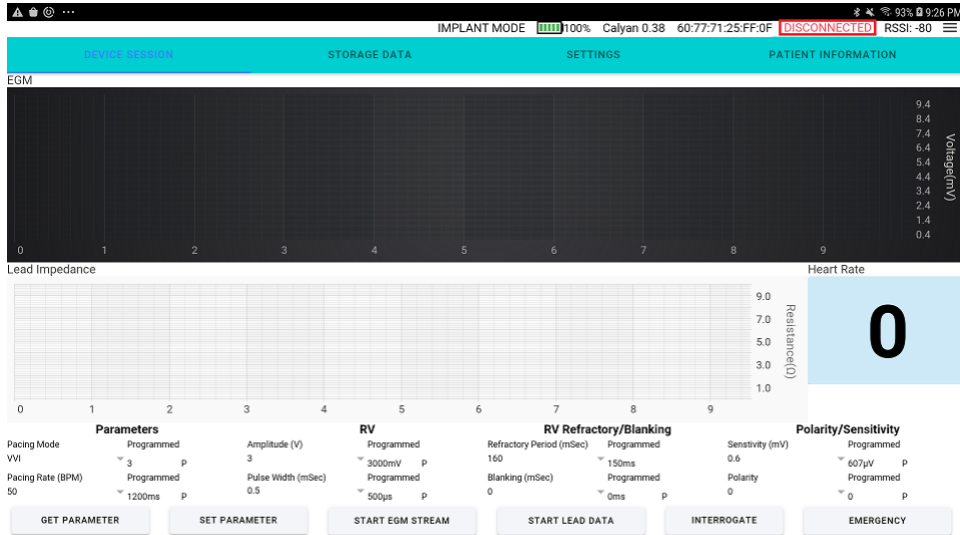

Figure 8: Connection Error - Disconnect
3. If the connection is unsuccessful at any point, a “DISCONNECT” status will be displayed in the top right of the screen in red with a reconnecting message in the bottom of the screen (Figure 8).